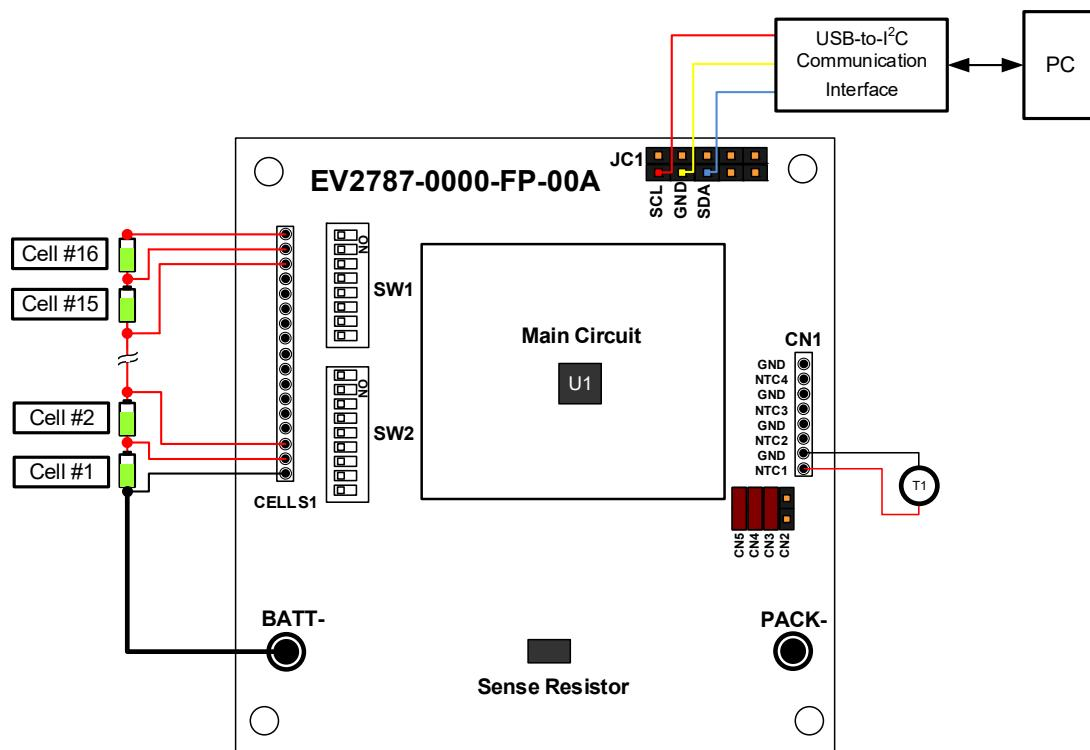
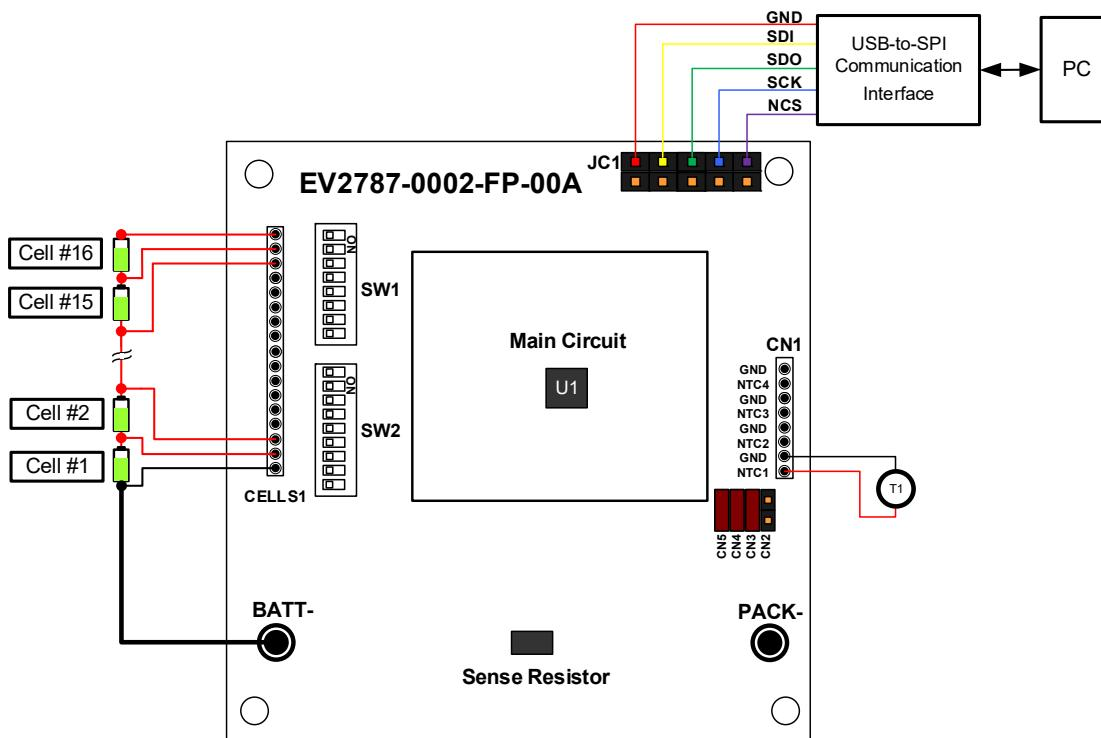

Figure 6: Test Set-Up for the MP2787DFP-0000 with a Battery Pack
Figure 7: Test Set-Up for the MP2787DFP-0002 with a Battery Pack
5. The open-wire detection and cell-balancing functions cannot be tested using the cell simulator shunt. To evaluate these features, use a real battery pack. Figure 6 and Figure 7 on page 7 show the MP2787 test set-up with a battery pack for the EV2787-0000-FP-00A and EV2787-0002-FP-00A, respectively.